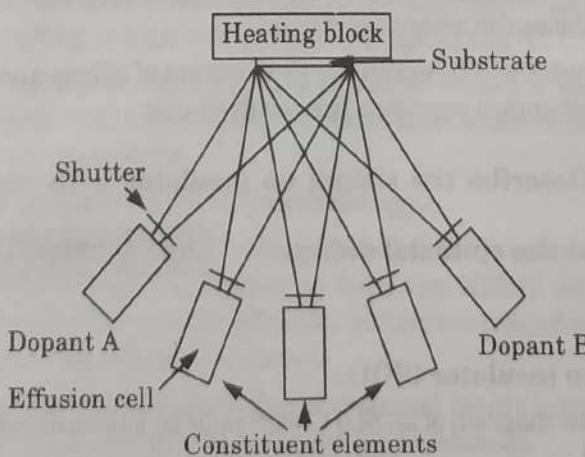

Fig. 2.9.1. Basic principle of MBE.
1. Fig. 2.9.1 shows a simple schematic illustrating the basic principle of MBE.